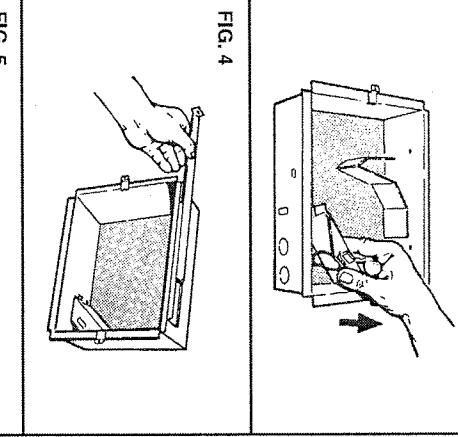

FIG. 4
1. Choose which side of housing will be mounted directly to a wall stud. Then, insert a mounting bracket, from the opposite side, into the channel at the top of housing. (FIG. 4)
2. Use measuring guide on side of housing to position housing so that it will be flush with finished top of housing. (FIG. 4)
1. Escoga qué lado de la caja se montará directamente a una viga de pared. Desde el lado opuesto, meta un soporte de montaje en el canal en la parte de arriba de la caja. (FIG. 4)